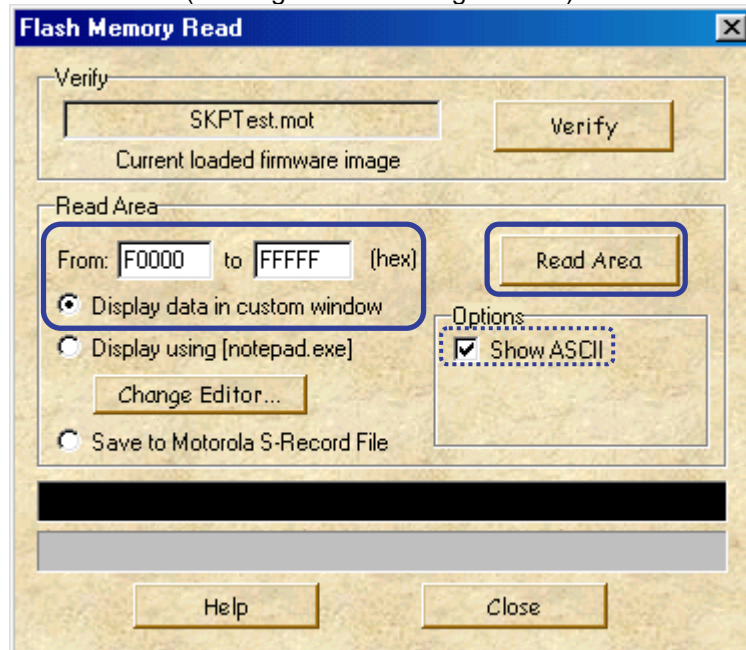
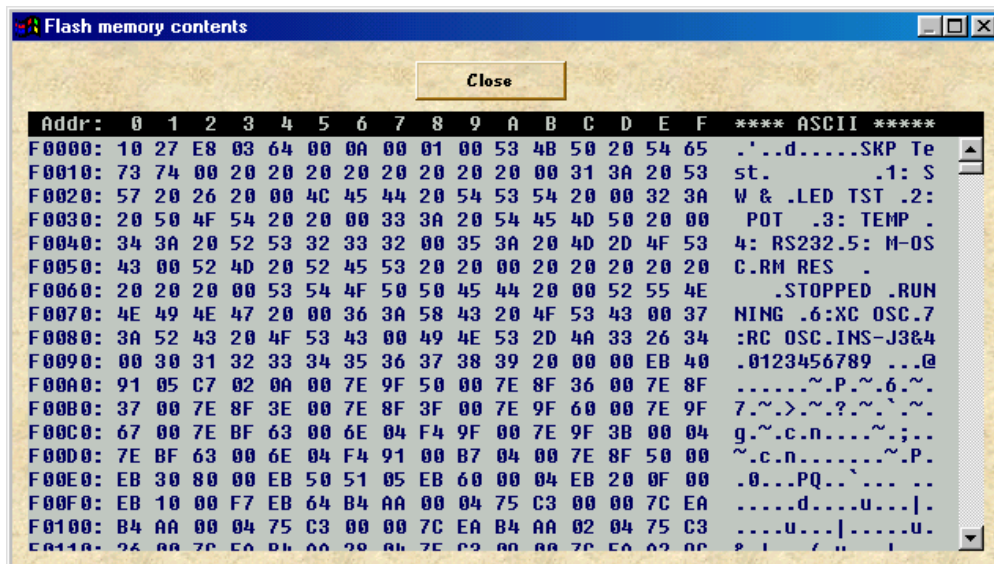

Figure 4-9 Flash Memory Read screen-2
Figure 4-10 Flash Memory Contents
- (3) For “Read Area”, specify the range of data to read in hexadecimal. By default, the data opens in a custom window. Click the <Read Area> button, and the downloaded data will be displayed, but not saved. If you wish, select the <Show ASCII> check box in the Options section, and ASCII code will be added to the downloaded data. (See Figure 4-9 and Figure 4-10)